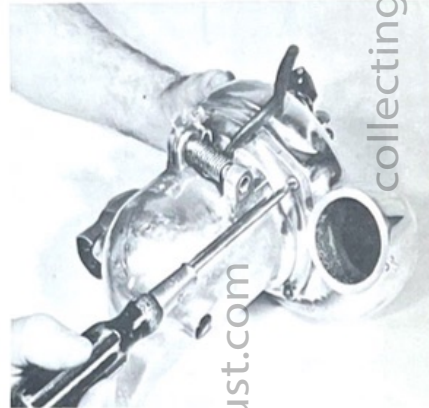

Figure 1-13. Removing fan housing screws
a. Remove the four screws (48, fig. 1-1) that secure the assembled fan housing and front wheel bracket to the motor housing assembly (15) as shown in figure 1-13; move the fan housing to the side.